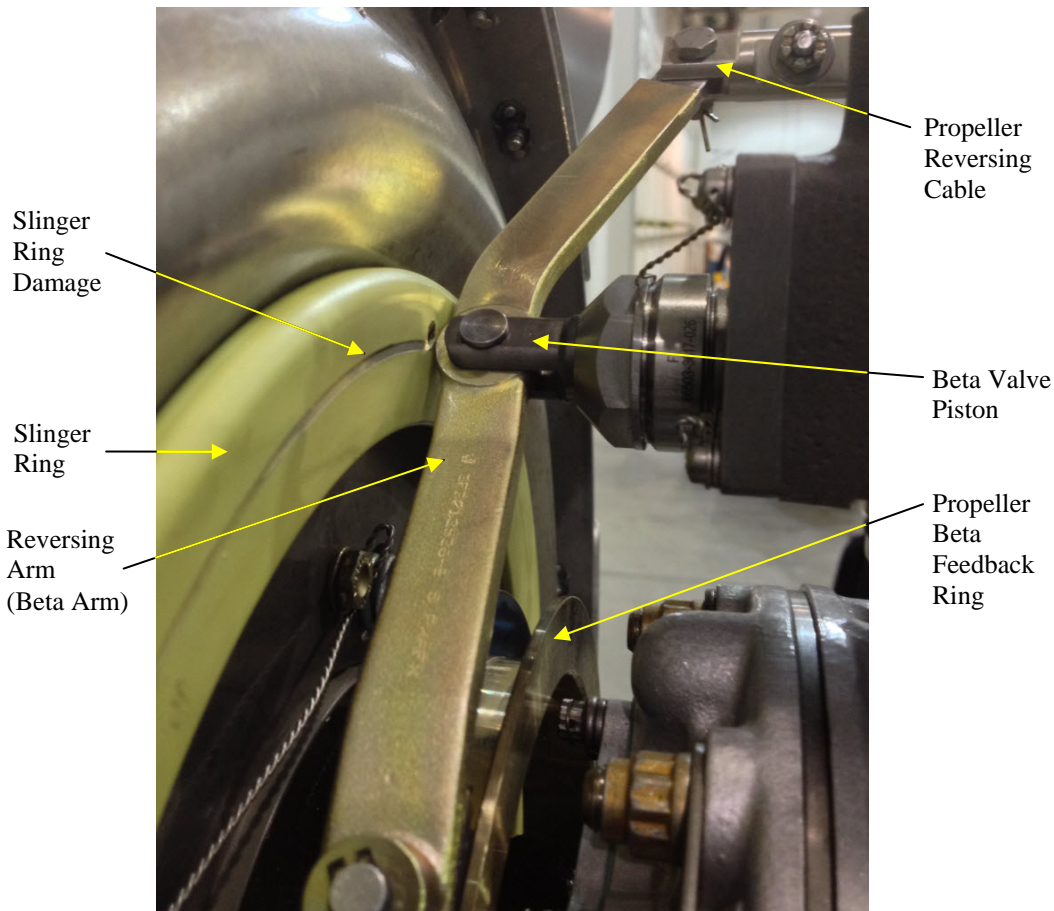

Figure 5-1: Damaged Slinger Ring Example
1. Visually inspect the aft face of the propeller slinger ring (P/N 13025-1) for any sign of rubbing or scoring of the aft face as shown in **Figure 5-1**. An undamaged slinger ring will be free of any marks or scoring of the aft surface.
5. Install the reversing cable bolt, bushing, and castle nut. Secure the cable bolt with a new cotter pin (P/N MS9245-23). Refer to **Figure 5-1**.
6. Install the beta valve clevis pin and washer. Secure the clevis pin with a new cotter pin (P/N MS9245-23). Refer to **Figure 5-1**.